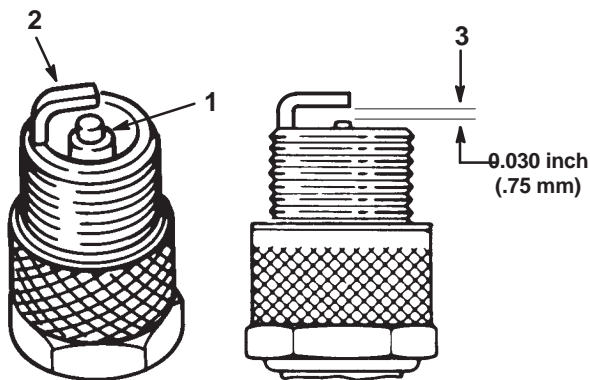

Figure 32
- Look at the center of the spark plug(s) (Fig. 32). If you see light brown or gray on the insulator, the engine is operating properly. A black coating on the insulator usually means the air cleaner is dirty.
- Check the gap between the center and side electrodes (Fig. 32). Bend the side electrode (Fig. 32) if the gap is not correct.